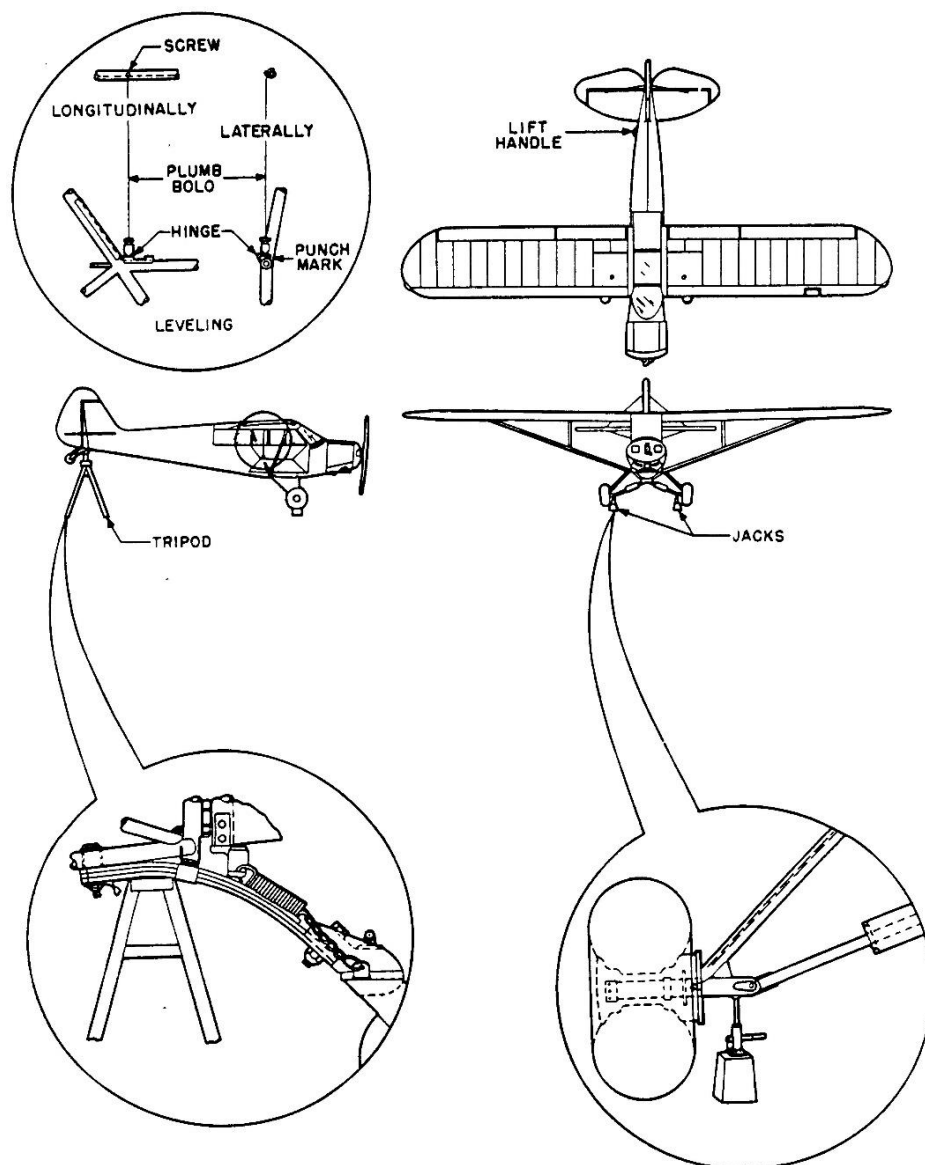

Figure 1. Jacking and Leveling the Aircraft
1. Level the aircraft laterally and longitudinally. (See Figure 1, Jacking and Leveling the Aircraft). Jack the aircraft as indicated in the Figure. Attach a plumb bob to the screw on the top channel door frame directly above the rear enclosure door hinge as illustrated in the Figure 1. Adjust the plumb bob so that it clears the hinge and so that its supporting string centers over the screw head. Level the aircraft longitudinally by raising or lowering the tail until the plumb bob is laterally in line with the punch mark on the rear enclosure door hinge. Level the aircraft laterally by raising or lowering either of the jacks supporting the landing gear until the plumb bob is centered over the punch mark on the rear enclosure door hinge as shown in Figure 1. (Note: if the airframe has damage history this method may not be acceptable. Alternatively, the airframe can be leveled by using a spirit or digital level. To level longitudinally, place the level on the lower door frame and raise or lower the tail as needed to center the level. To level laterally, place the level on the front spar carry through and raise or lower the jacks under each landing gear until the level centers.)